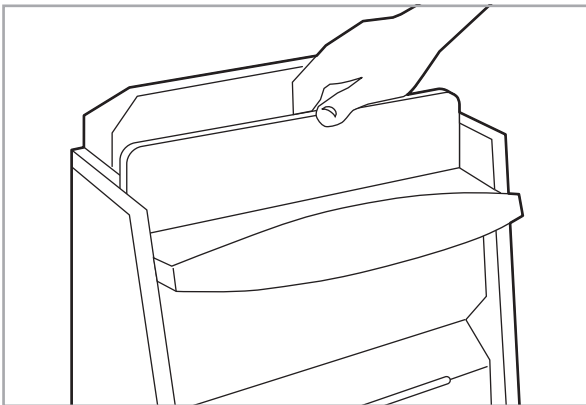

Figure 3.7
- 5) Attach the background stone (see Figure 3.7).